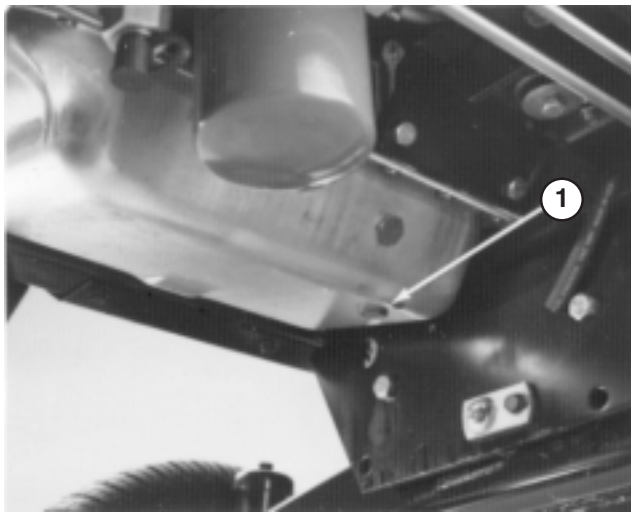

Figure 29
ENGINE OIL AND FILTER (Fig. 29–30)
1. Remove drain plug (Fig. 29) and let oil flow into drain pan. When oil stops, install drain plug and new plug seal.